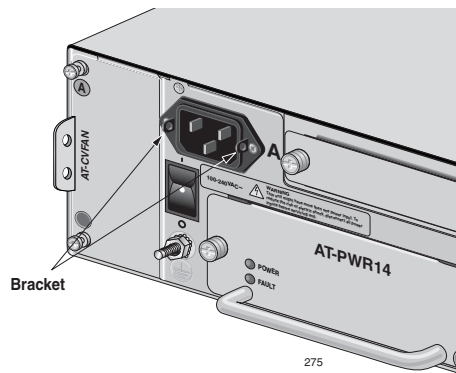

Figure 15. Power Cord Retaining Bracket
2. Locate the retaining bracket on each side of the AC power connector on the rear of the chassis, as shown in Figure 15.